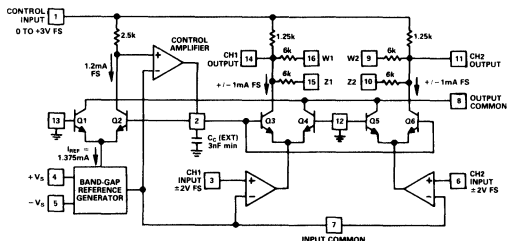
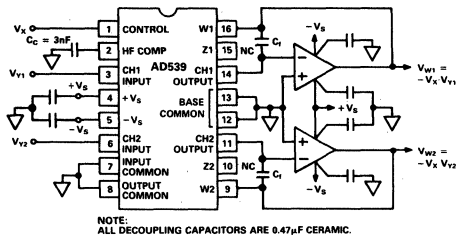
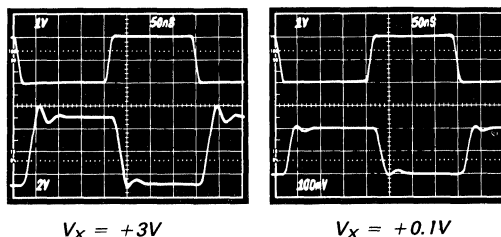

Figure 1. Simplified Schematic of AD539 Multiplier
Figure 2. Standard Dual-Channel Multiplier
Figure 4b. Multiplier Pulse Response Using LH0032 Op Amps
Gain	(Figure 2)
Multiplier Transfer Function,	(Figure 2)
Figure 1 is a simplified schematic of the AD539. Q1-Q6 are large-geometry transistors designed for low distortion and low noise. Emitter-area scaling further reduces distortion: Q1 is 3 times larger than Q2; Q4, Q5 are each 3 times larger than Q3, Q6, and these transistors are twice as large as Q1, Q2. A stable reference current  $I_{REF} = 1.375\text{mA}$  is produced by a band-gap reference circuit and applied to the common emitter node of a controlled-cascode formed by Q1 and Q2. When  $V_X = 0$ , all of  $I_{REF}$  flows in Q1, due to the action of the high-gain control amplifier which lowers the voltage on the base of Q2. As  $V_X$  is raised the fraction of  $I_{REF}$  flowing in Q2 is forced to balance the control current,  $V_X/2.5\text{k}$ . At the full-scale value of  $V_X$  (+3V) this fraction is 0.873. Since the bases of Q1, Q4 and Q5 are at ground potential and the bases of Q2, Q3 and Q6 are commoned, all three controlled-cascodes divide the current applied to their emitter nodes in the same proportion. The control loop is stabilized by the external capacitor,  $C_C$ .
$V_X$  should not exceed the specified range of 0 to +3V. The ac gain is zero for  $V_X < 0$  but there remains a feedforward path (see Figure 1) causing control feedthrough. Recovery time from negative values of  $V_X$  can be improved by adding a small-signal Schottky diode with its cathode connected to pin 2 and its anode grounded. This constrains the voltage swing on  $C_C$ . Above  $V_X = +3.2\text{V}$ , the ac gain limits at its maximum value, but any overdrive appears as control feedthrough at the output.
In using any analog multiplier or divider careful attention must be paid to the matter of *scaling*, particularly in computational applications. To be *dimensionally consistent* a scaling voltage must appear in the transfer function, which, for each channel of the AD539 in the standard multiplier configuration (Figure 2) is
Figure 2 shows the connections for the standard two-channel multiplier, using op amps to provide useful output power and the AD539 feedback resistors to achieve accurate scaling. The transfer function for each channel is
In some cases it may be desirable to alter the scaling. This can be achieved in several ways. One option is to use both the Z and W feedback resistors (see Figure 1) in parallel, in which case  $V_w = -V_x V_y / 2$ . This may be preferable where the output swing must be held at  $\pm 3V$  FS ( $\pm 6.75V$  pk), for example, to allow the use of reduced supply voltages for the op amps. Alternatively, the gain can be doubled by connecting both channels in parallel and using only a single feedback resistor, in which case  $V_w = -2V_x V_y$  and the full-scale output is  $\pm 12V$ . Another option is to insert a resistor in series with the control-channel input, permitting the use of a large (for example, 0 to +10V) control voltage. A disadvantage of this scheme is the need to adjust this resistor to accommodate the tolerance of the nominal  $500\Omega$  input resistance at pin 1. The signal channel inputs can also be resistively attenuated to permit operation at higher values of  $V_y$ , in which case it may often be possible to partially compensate for the response roll-off of the op amp by adding a capacitor across the upper arm of this attenuator.
The HF response is dependent almost entirely on the op amp. Note that the "noise gain" for the op amp in Figure 2 is determined by the value of the feedback resistor ( $6k\Omega$ ) and the  $1.25k\Omega$  control-bias resistors (Figure 1). Op amps with provision for external frequency compensation (such as the AD301 and AD518) should be compensated for a closed-loop gain of 6.
Figure 2 using this amplifier with  $V_y = 1V$  rms and other conditions as shown in Table I.  $C_F$  was adjusted for 1dB peaking at  $V_x = +1V$ ; the -3dB bandwidth exceeds 25MHz. The effect of signal feedthrough on the response becomes apparent at  $V_x = +0.01V$ . The minimum feedthrough results when  $V_x$  is taken slightly negative to ensure that the residual control-channel offset is exceeded and the dc gain is reliably zero. Measurements show that the feedthrough can be held to  $-90dB$  relative to full output at low frequencies and to  $-60dB$  up to 20MHz with careful board layout. The corresponding pulse response is shown in Figure 4b for a signal input of  $V_y$  of  $\pm 1V$  and two values of  $V_x$  ( $+3V$  and  $+0.1V$ ).
- 1For the circuit of Figure 2.